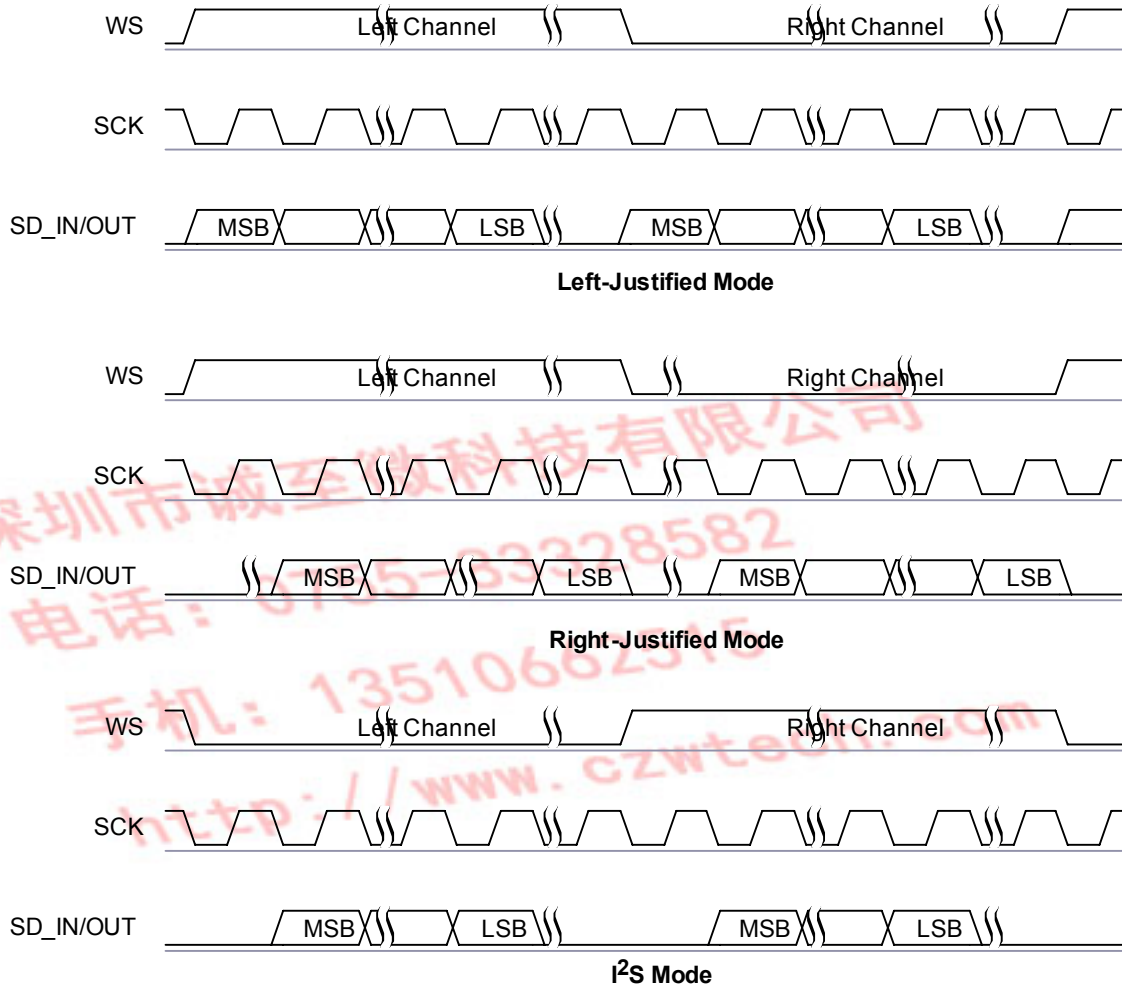

Figure 8.36: Digital Audio Interface Modes
The digital audio interface supports the industry standard formats for I2S, left-justified (LJ) or right-justified(RJ)(1). The interface shares the same pins as the PCM interface as shown in Table 6.1 and the timing diagram is shown in Figure 8.36.